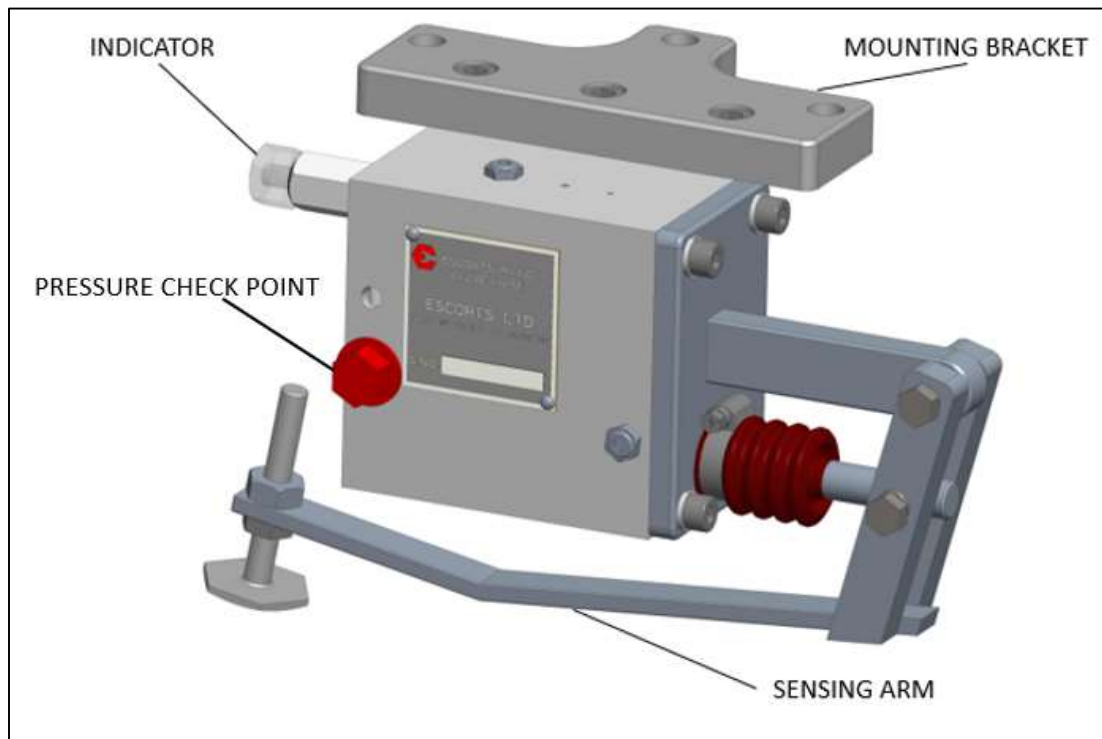

Figure 18: 3D view of ERV/APM device
2.5 ESCORTS RATIO VALVE (ERV/APM) (Ref. Fig. 18)